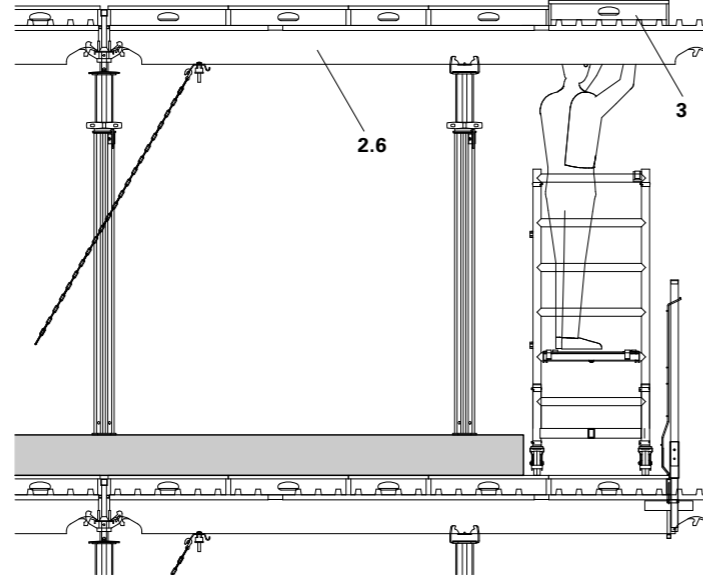

Fig. A9.18
1. Working from a secure, suitably guarded platform, install panels (3) on the Main Beam SLT 375 (2.6). (Fig. A9.18).